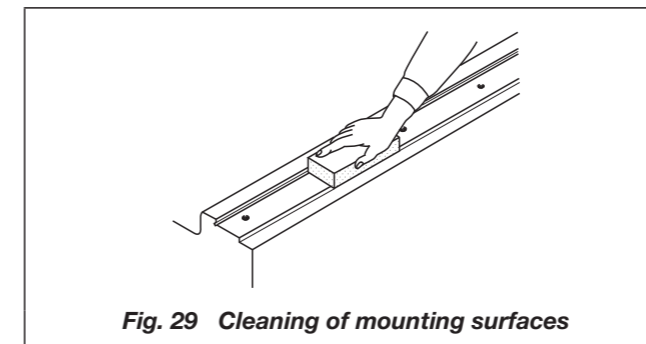

Fig. 29 Cleaning of mounting surfaces
①Cleaning of mounting surfaces
- Remove burrs and blemishes from reference mounting surfaces and mounting surfaces of the machine using an oil-stone, etc., and then wipe the surfaces with clean cloth. (See Fig. 29.)